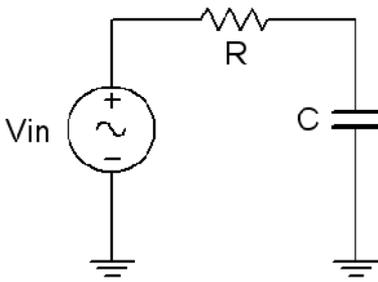

Figure 4.1
1. Using Figure 4.1 with $V_{in}=1$ Vp-p sine at 10 kHz, $R=1$ k Ω , and $C=10$ nF, determine the theoretical capacitive reactance and circuit impedance, and record the results in Table 4.1. Using the voltage divider rule, compute the resistor and capacitor voltages and record them in Table 4.2.
2. Build the circuit of Figure 4.1 using $R=1$ k Ω , and $C=10$ nF. Place one probe across the generator and another across the capacitor. Set the generator to a 10k Hz sine wave and 1 Vp-p. Make sure that the *Bandwidth Limit* of the oscilloscope is engaged for both channels. This will reduce the signal noise and make for more accurate readings.